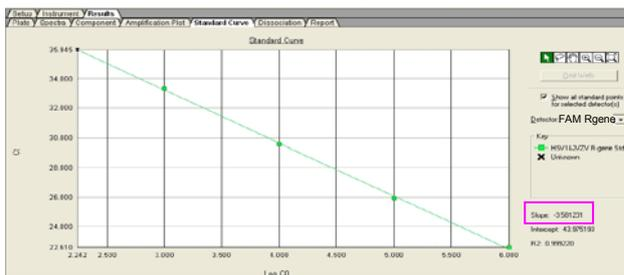

Fig.24
- Click on **STANDARD CURVE** tab to obtain the slope of the standard curve (Fig.24).